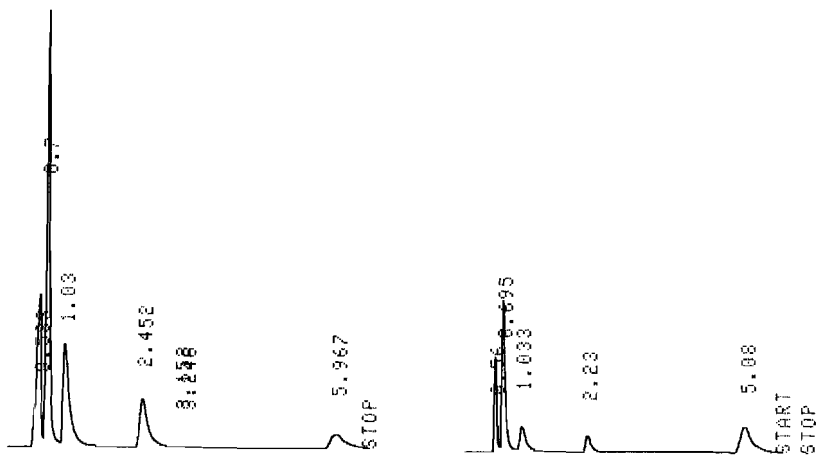

Figure 67-2. Improving the peak shape by increasing the viscosity of the sample solution (right panel). Comments see text.
- Inject some guanidine, urea or 2% glycerol together with your sample. These substances act as highly viscous stoppers that serve the same purpose as the air bubbles. Since these substances elute with the solvent front, they won't get in the way. See Figure 67-2.